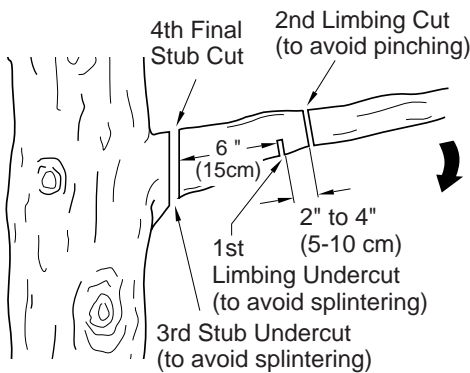

Figure 10 - Cutting A Limb
1. Make the first cut from the underside about 1/2 foot from the trunk and 1/3 through the diameter of the limb (See Figure 10).